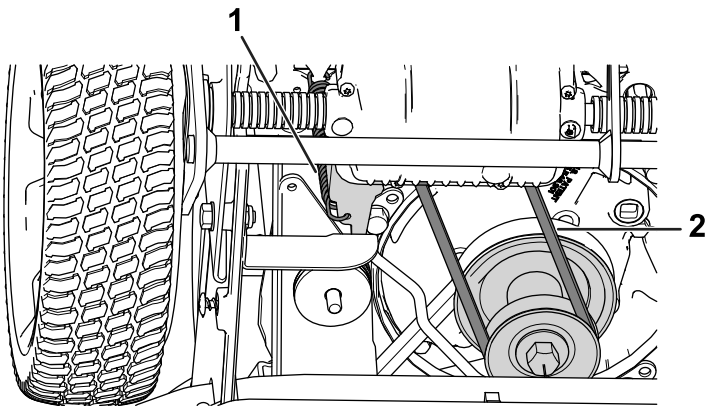

Figure 3
7. Remove the transmission belt and the transmission tension spring from the machine (Figure 3).